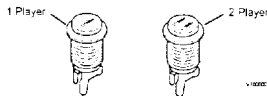

Figure 3: Start Buttons
17. Notice that there are two white buttons. See figure 3. The WHITE buttons are START buttons. Install the ONE player button on the top left-hand side of the control panel, and the TWO player5 button on the top right-side of the control panel.
18. Install all buttons and retaining rings on the control panel as shown in Figure 3. Install two red buttons to the immediate right of each joystick, install two green buttons to the right of the red ones, and install two blue buttons to the right of the green ones.